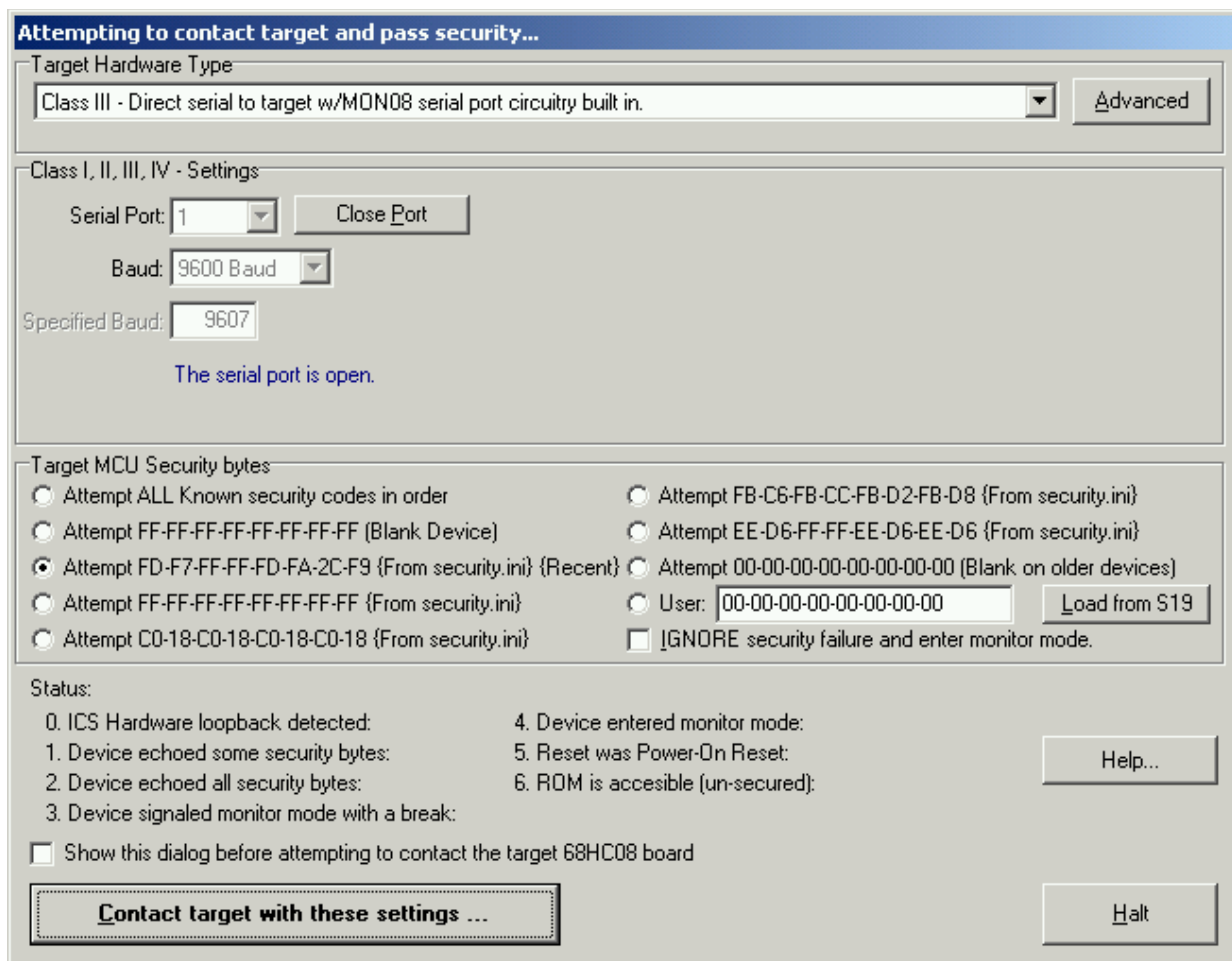

Figure 11. Select Port, Baud, and Security Bytes
Programming the FLASH on an M68HC908 is relatively easy with the PROG08SZ component. Simply open the WinIDE, then develop and assemble your code. When your MON08 interface is attached between the PC and target board, select the programmer icon (lightning bolt). The PROG08SZ programmer launches and configures the PC's COM port. Depending on the type of MON08 interface, a power cycle dialog box may appear to ask you to turn power off then on to your board. (The Cyclone and Multilink can perform this operation for you.) PROG08 then prompts you to choose a programming algorithm from a file window. Monitor mode communication is established automatically and the programmer window (Figure 11) appears.
7. Select the PC port and the appropriate baud rate (see Figure 11).
The PROG08SZ Attempting to contact target and pass security... window appears. (Refer to Figure 11)